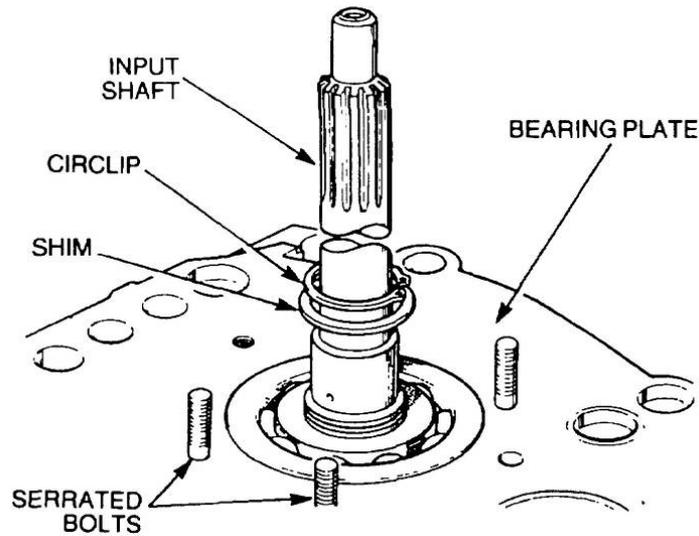

Figure 175 Removal of the Input Shaft
- ll. Remove the circlip retaining the input shaft to the bearing (Figure 175). Remove the shim, and using a suitable press, remove the input shaft. Discard the needle roller bearing.